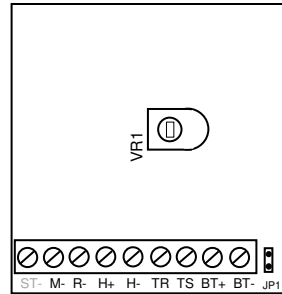

Figure 1. Connections and Timer Selection Jumper
- 2) If Lo facility is used, activate keypad on control panel and check low volume from sounder. Adjust VR1 for desired Lo volume level (see fig 1).